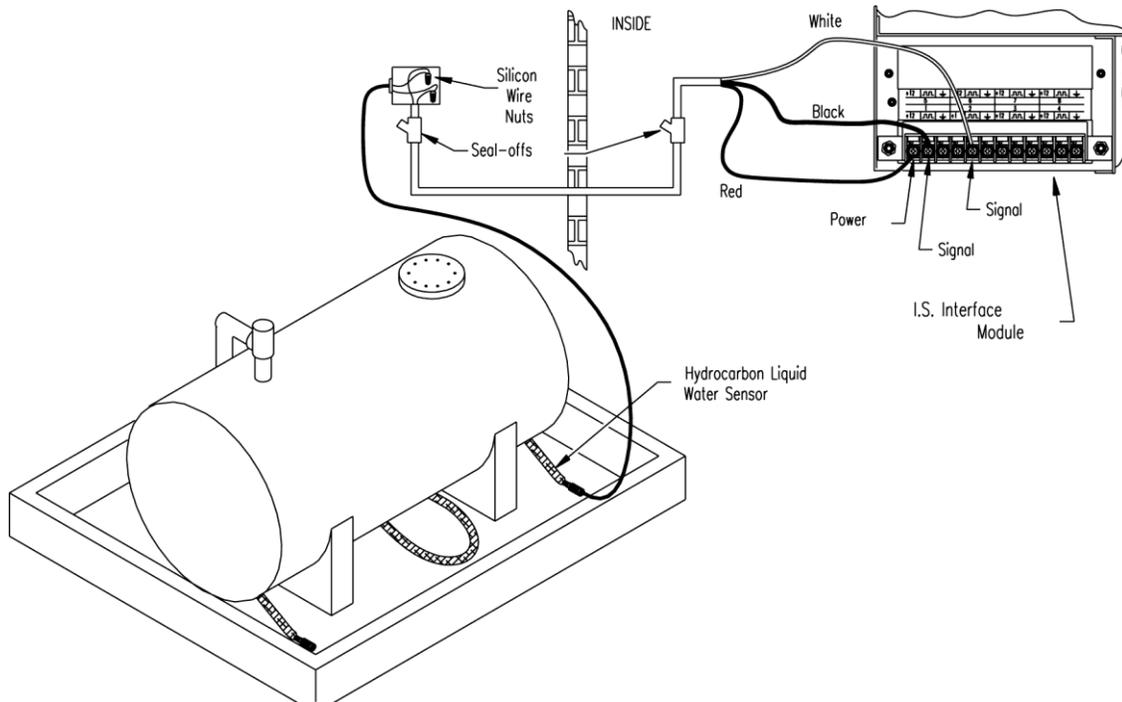

Figure 13-6 Hydrocarbon Liquid & Water Sensor Installation
- Review Figure 13-6 on page 46.